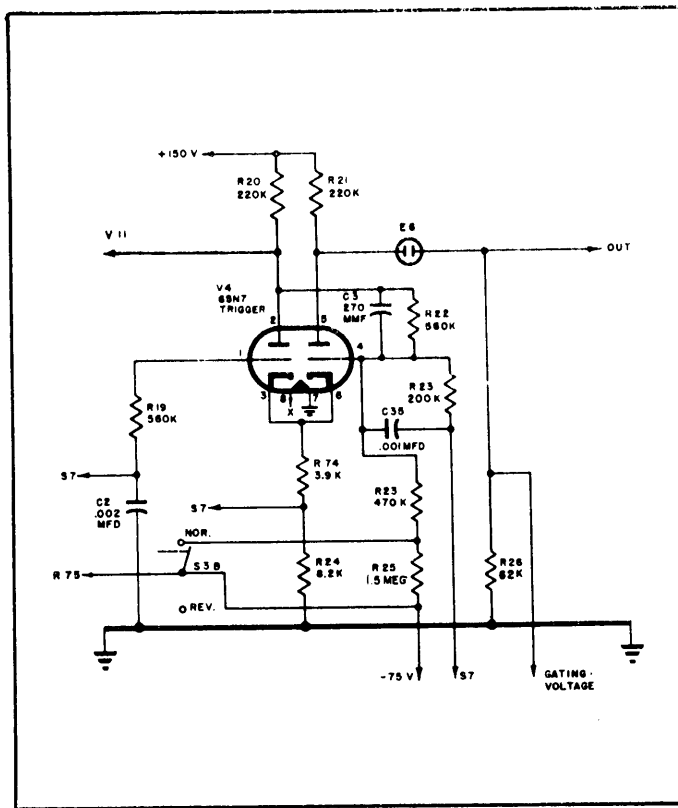

Figure 2-4. Trigger Circuit
**b. TRIGGER CIRCUIT.**—The trigger circuit illustrated in Figure 2-4 is provided to accept the DC input signals from either the rectifier tube V3 or directly from the DC inputs and provide a stable square wave DC teletype signal voltage at the trigger output. A uniform square wave voltage is essential for optimum operation of the following sampling pulse generating circuits and gating circuits. Trigger tube V4 utilizes a direct coupled flip-flop circuit to secure a square wave voltage across the output load resistor R26. Threshold action is secured in V4 as random input voltages below a certain critical level necessary to trigger the tube will have no effect on the circuit. If there is considerable noise on the input signal, input to the trigger tube should be adjusted to provide about 6 DB more signal input than will just trigger V4. If the input signal is varying in amplitude, however, input to the trigger tube must be adjusted to provide enough signal above the trigger point of V4 that the varying level never falls below the trigger point.